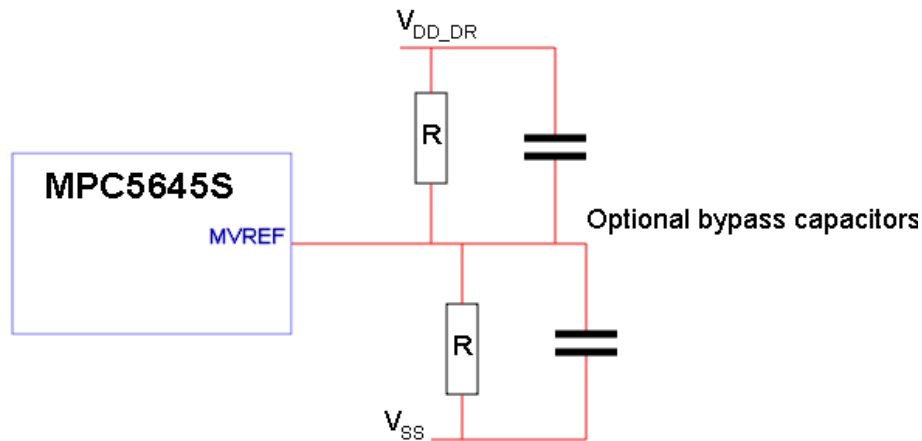

Figure 9. Simple MVREF reference circuit
- Provide a stable reference for MVREF which also tracks the SDRAM supply voltage. In many cases acceptable performance may be achieved by using a simple resistor divider arrangement if the resistors are well matched. The addition of bypass capacitors may be required if the DDR supply voltage is noisy. Alternatively use a custom voltage reference IC. Figure 9 shows a MVREF reference circuit.